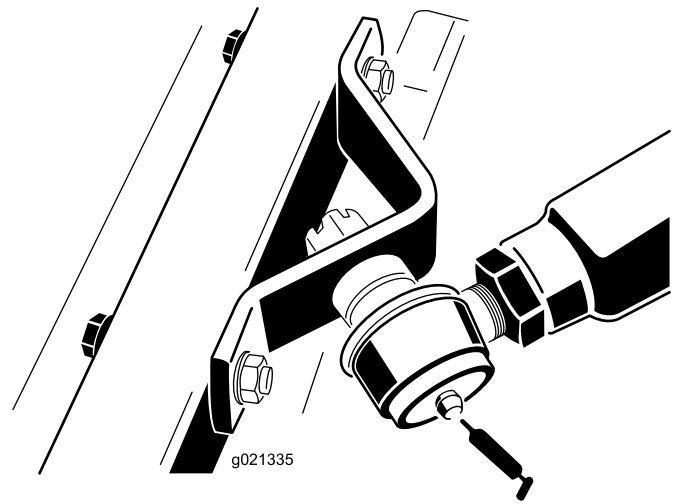

Figure 19
- Right and left push arm ball joints -1 each (Figure 19)